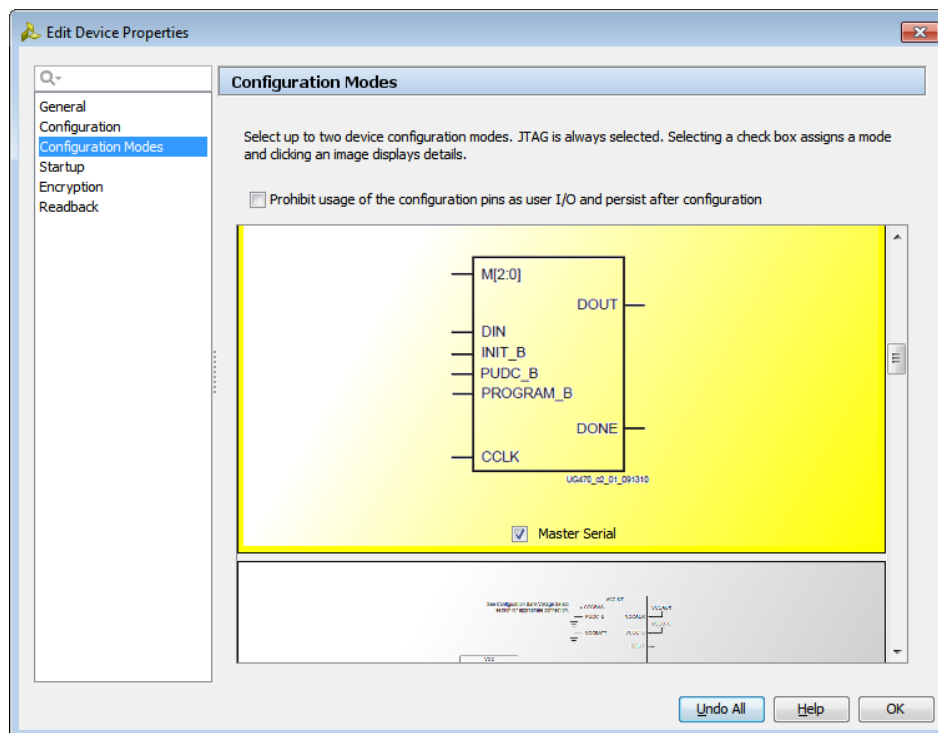

Figure 35: Edit Device Properties – CONFIG_MODE
5. Scroll down on the page to find the **Master Serial** configuration mode option, as shown in Figure 35.